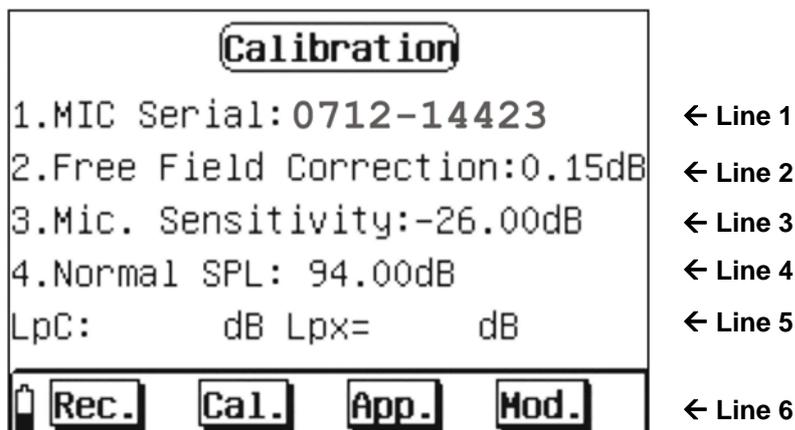

Fig. 35: Initial screen of calibration section
2. Use the “◀” or “▶” to select the “**Calibrate**” icon and confirm with “↔” to enter the calibration mode (see Fig. 35)
6. Select the “**Cal.**” option on the instrument (see Fig. 35) and press the “←” key to activate calibration, which takes 10s